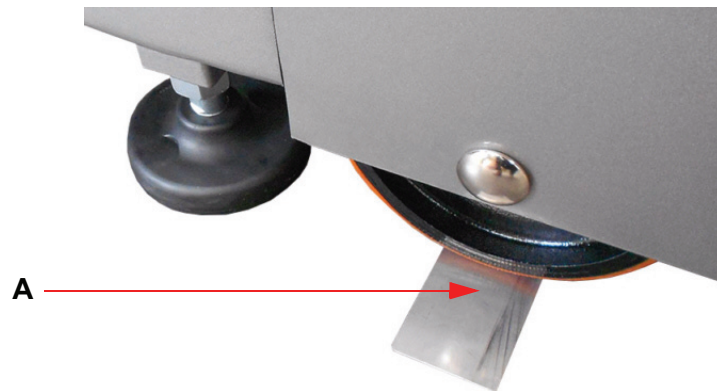

Fig. 4 Position control plate
**Once the machine has been placed in its operating position, verify that the distance between the wheels of the trolley and the floor is 1 mm, using the supplied plate ref. A Fig. 4 on page 21.**